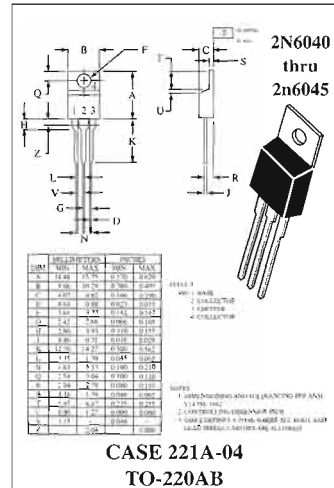

FIGURE 9-37
- Check out the printed circuit board in Figure 9-37 to verify that it is correct according to the schematic. The backside interconnection is shown as a darker trace.